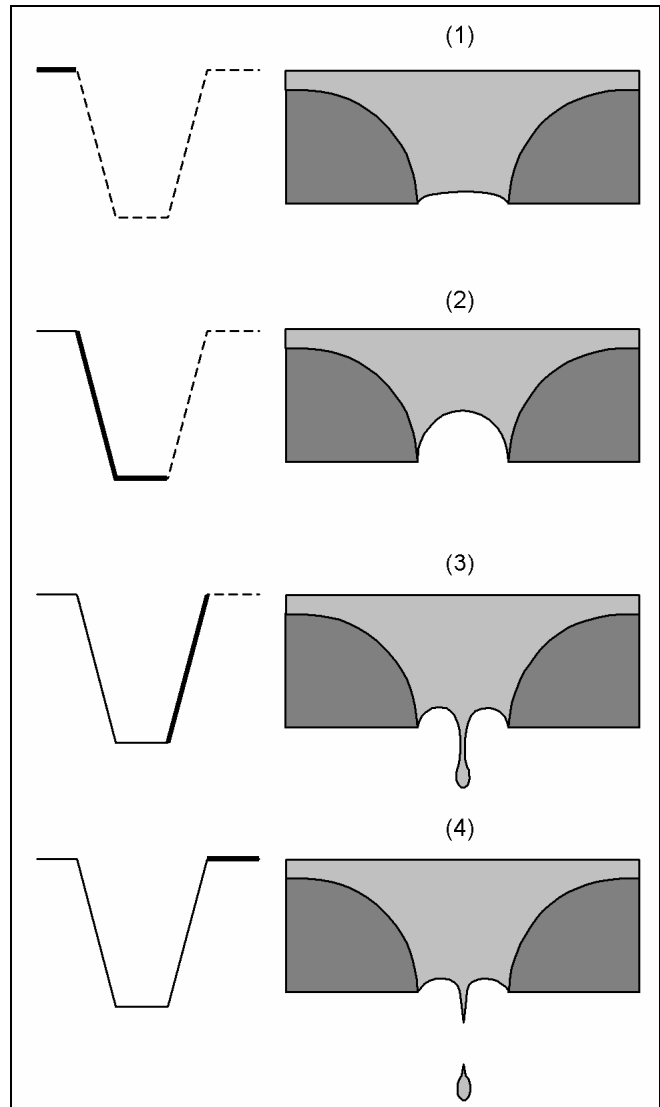

Figure 5. Drive Signal and Position of ink meniscus
Figure 5 indicates meniscus condition while ejecting ink droplet. At first, the ink meniscus is kept inside the nozzle shown in (1).